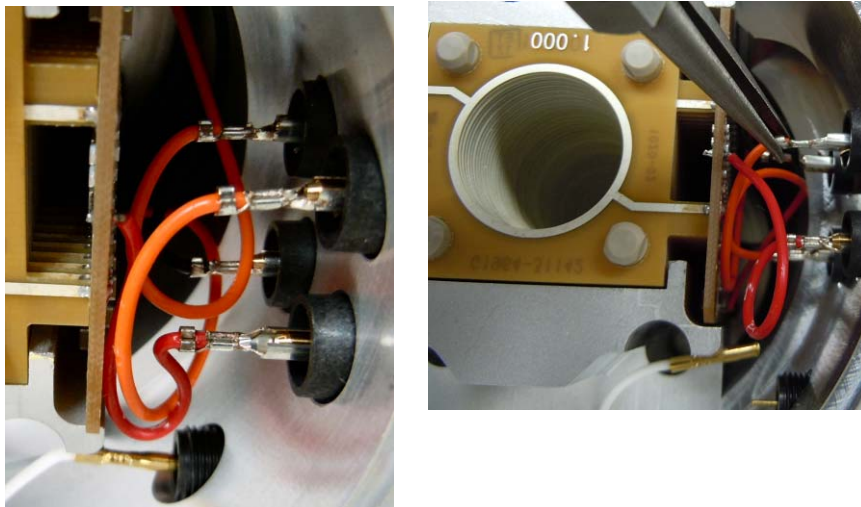

Figure 65 Five internal wires from the feed-through.
- 3** Disconnect the five internal wires from the feed-throughs. Use needle nose pliers. See Figure 65.